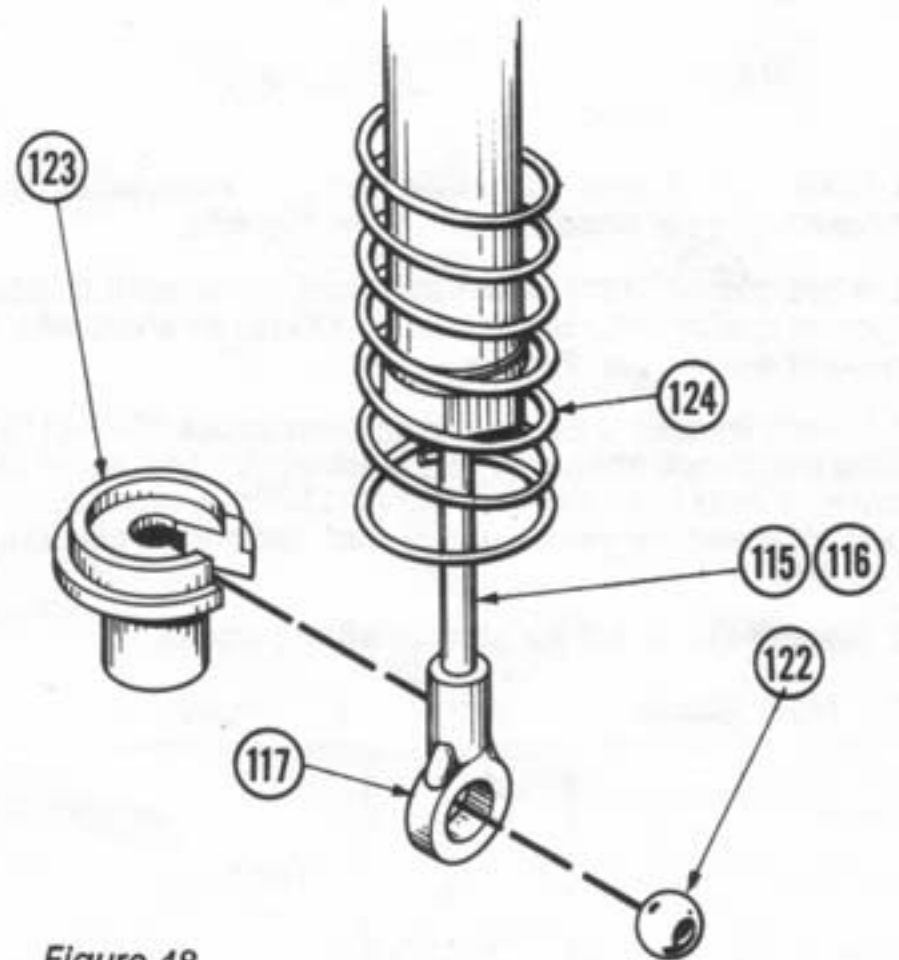

Figure 48
14. Press a 1/4" shock mount ball (122) into lower shockmount (117). Snap shock cup (123) onto the shaft (115), (116) and down onto the lower shock mount (117). Fig. 48
15. Slide spring (124) down over the shock to rest on the shock cup (123). Fig. 48